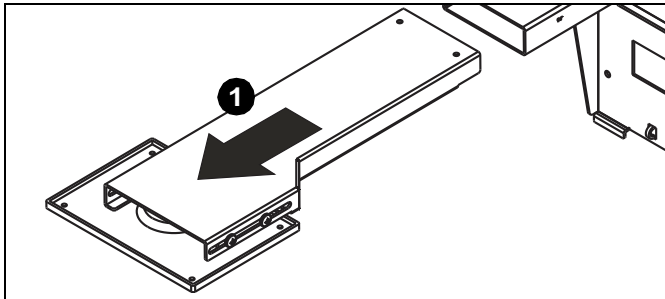

Figure 4
1. Remove end of boom arm with projector attachment plate and save hardware. (See Figure 4)